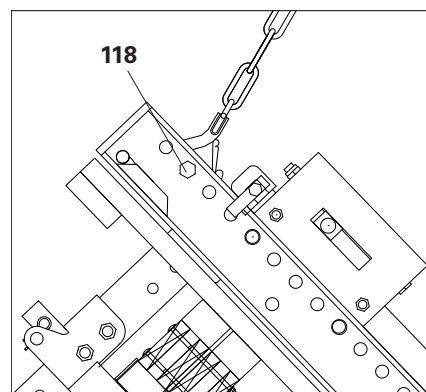

Fig. B1.18a
1. Insert Spacers M24-82 with bolt and nut (**118**) into the holes on the cross-beam. (Fig. B1.18a + B1.18b)